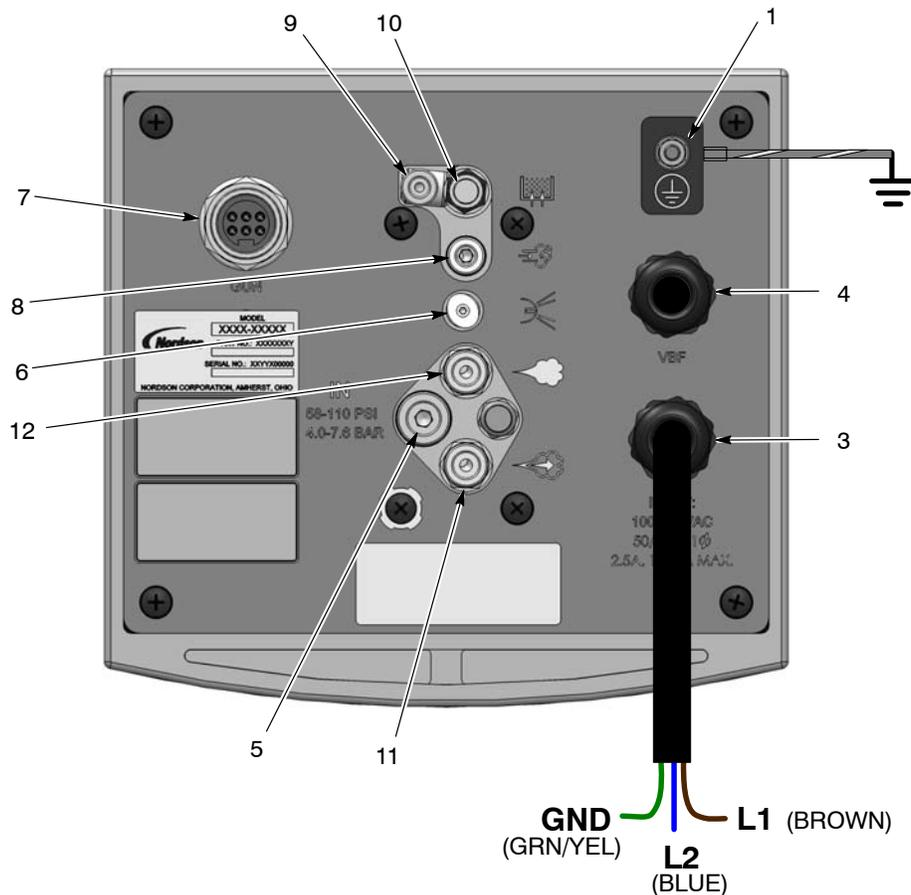

Figure 3-5 Encore LT Gun Controller Connections
- See Figures 3-5 and 3-3. Plug the following into the controller:
- 8-mm blue atomizing air tubing (11) to pump
- 8-mm black flow-rate air tubing (12) to pump
- Install the pump (5) into the pump mount (4) with a slight twisting motion. Connect the flow (12) and atomizing (11) air tubing to the pump as shown.
- Remove the nut (8) and sleeve (7) from the throat holder (9). Slide them both over the end of the powder hose (10). Make sure the end of the powder hose is cut straight.
- Connect 8-mm blue atomizing air tubing (11) to the atomizing air fitting.
- Connect 8-mm black flow air tubing (12) to the flow air fitting.
See Figures 3-5 and 3-4.
5. See Figure 3-5. Connect the 4-mm clear tubing to the electrode air wash quick-disconnect fitting (6).
6. Connect the 6-mm black tubing to the purge air quick-disconnect fitting (8).